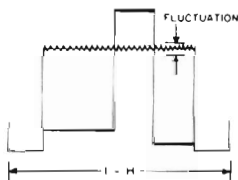

Figure 4-1. PVR501 Alignment
- 4) Adjust PVR501 to obtain a minimum fluctuation (A straight line) in figure 4-1.